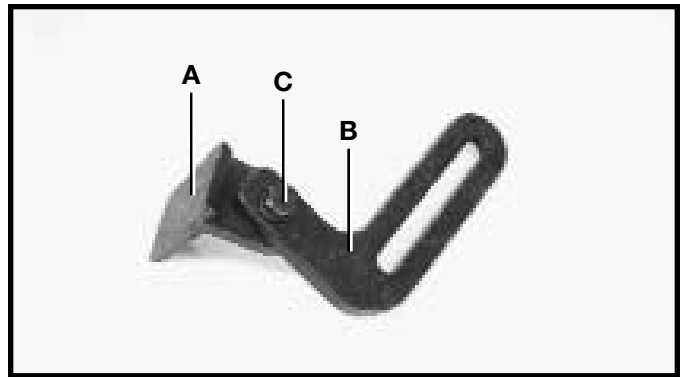

Fig. 3
1. Assemble adjustable tool rest (A) Fig. 3, to left side of tool rest arm (B), as shown, and fasten with one 5/16-18x3/4" hex head screw and 3/8" lockwasher (C). Assemble the remaining tool rest to the right side of the other tool rest arm in the same manner. Do not completely tighten hardware at this time.